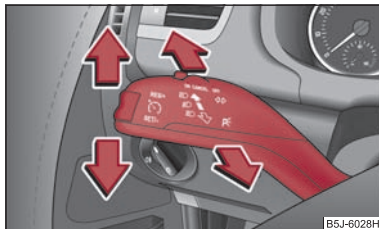

Fig. 40 Turn signal and main beam lever
- Push the lever upwards or downwards ⇒ fig. 40.